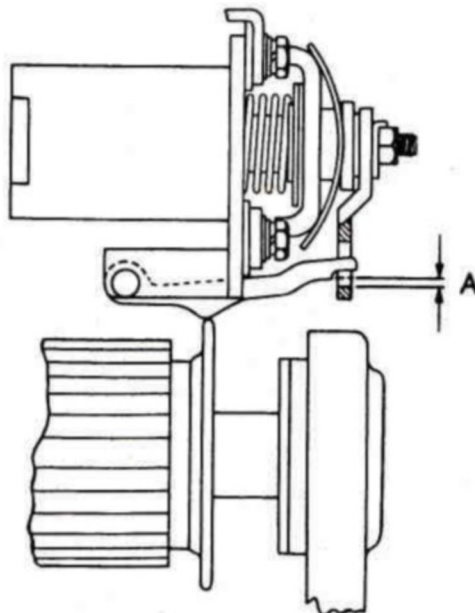

Fig. 8. Relationship between trigger and tripping disc
23. Fit the washers and nut (20) to the armature plunger, and tighten.
25. Connect the brush leads and field leads to the brush gear with screws (27) On those starters with pressed brush gear do not forget to fit the brush interconnectors. All these leads should have been duly marked during dismantling as the number and disposition of the leads vary with the starter type.
26. Check that the relationship between the trigger (19) and the tripping disc (30) is correct, by pulling the armature forward until the trigger is raised to its highest extent by the tripping disc. When the trigger is raised there should be an ample gap between the shoulder on the trigger and the bottom of the slot in the catch plate, see Fig. 8 'A'.